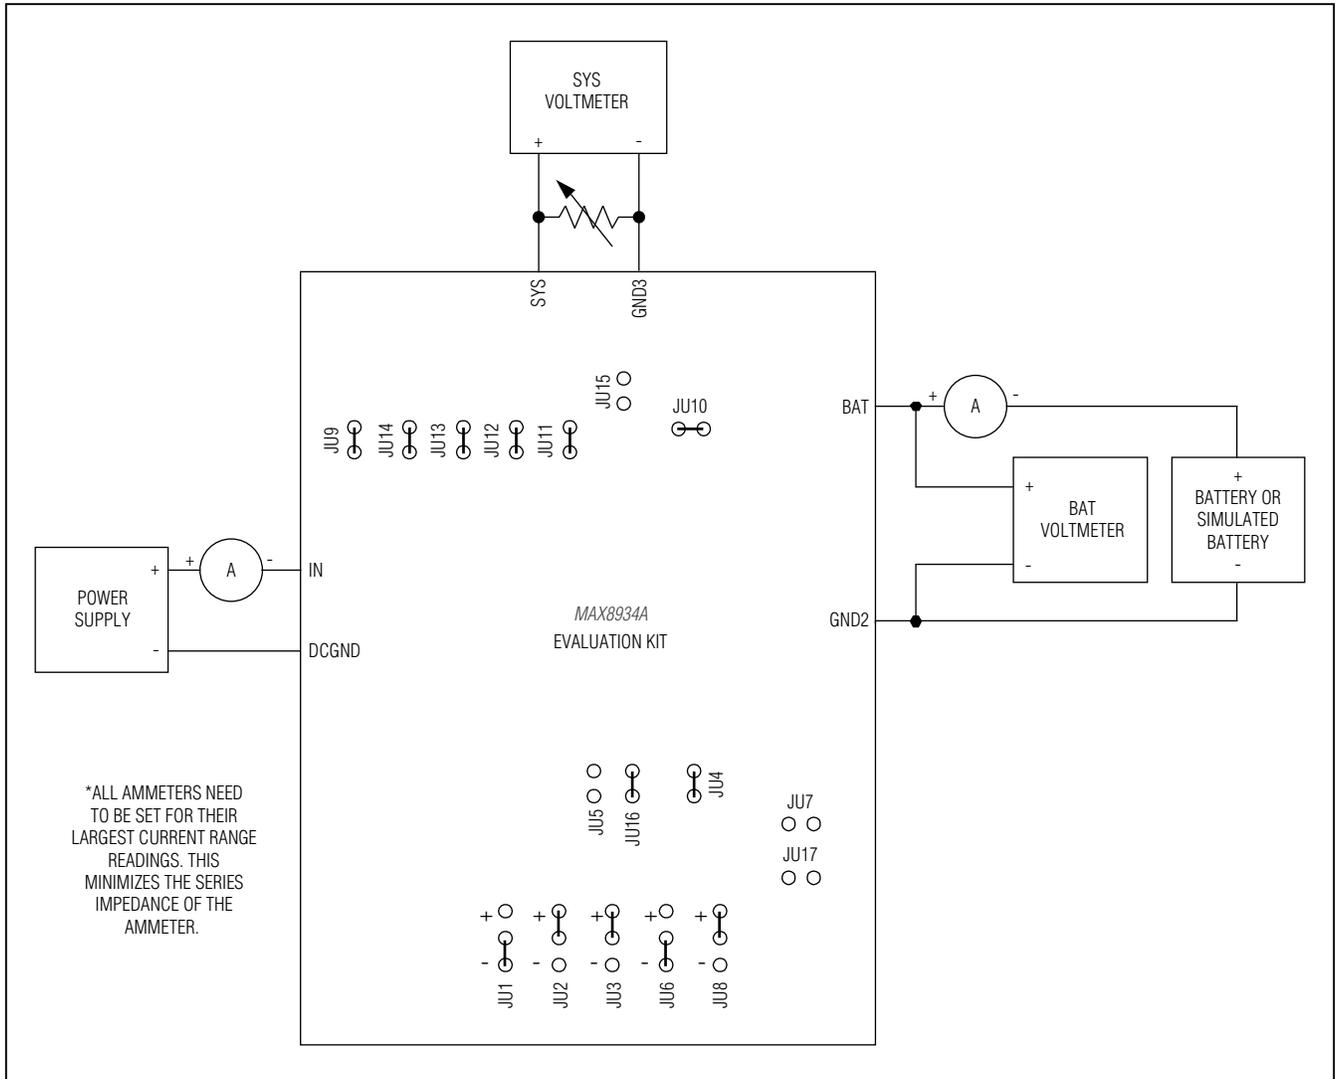

Figure 2. Connection Diagram and Default Jumper Connections
- Ensure that the EV kit has the jumper settings shown in Figure 2 and Table 1.
- Connect the EV kit to the power supply, battery, or preloaded power supply, and meters, as shown in Figure 2. Set the ammeters to their largest current range (lowest series impedance).